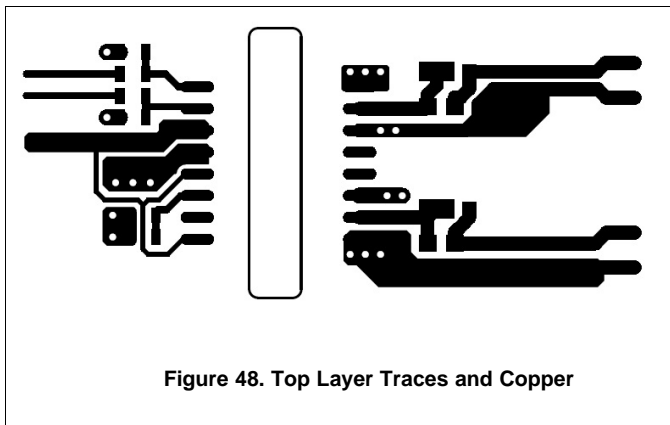
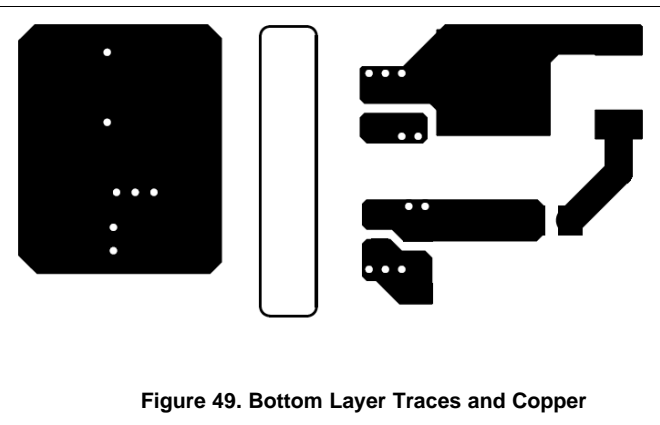

Figure 48. Top Layer Traces and Copper
Figure 49. Bottom Layer Traces and Copper
- Increasing the PCB copper connecting to VDDA, VDDB, VSSA and VSSB pins is recommended (See Figure 48 and Figure 49). However, high voltage PCB considerations mentioned above must be maintained.
Figure 48 and Figure 49 shows top and bottom layer traces and copper.